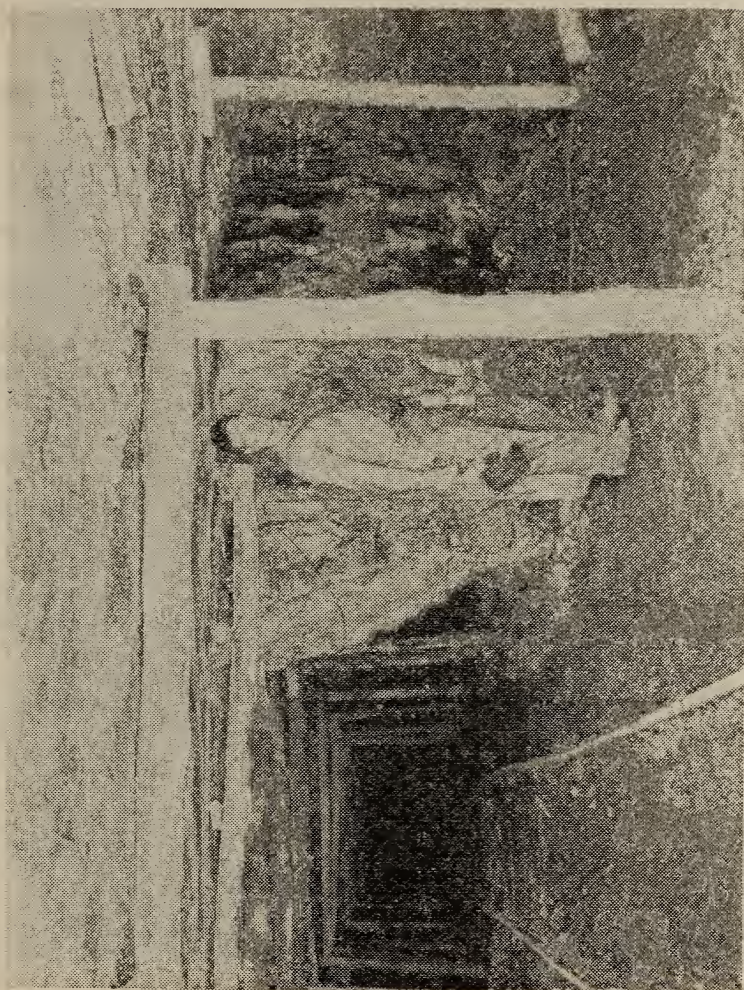

FIGURE 50.—Shot firer gets in the clear, well around a corner, before firing charge.
A. Out of the line of fire around a corner as far as the cable or conditions permit. (See fig. 50.)